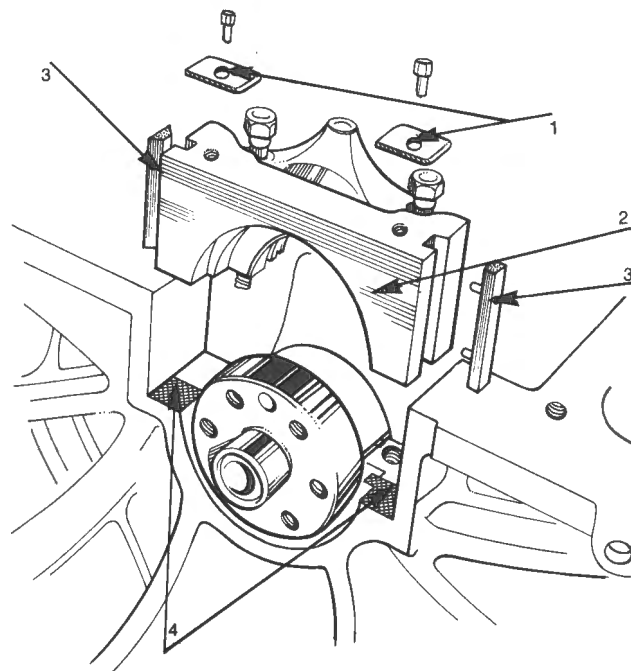

Fig. D-98
- (d) To prevent the seals riding up when the cap is installed; use two plates 30 x 19 mm (13/16 x 3/4 in) with a suitably placed 0.37 mm (3/64 in) hole or two flat washers as shown in Fig. D-98.